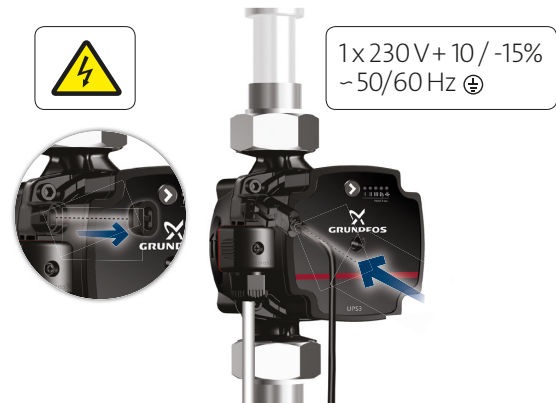

Fig. 21 Connecting the signal cable to the UPS3
5. The pump automatically detects if a valid PWM signal is available after which it enables the control mode on the pump. See fig. 21.